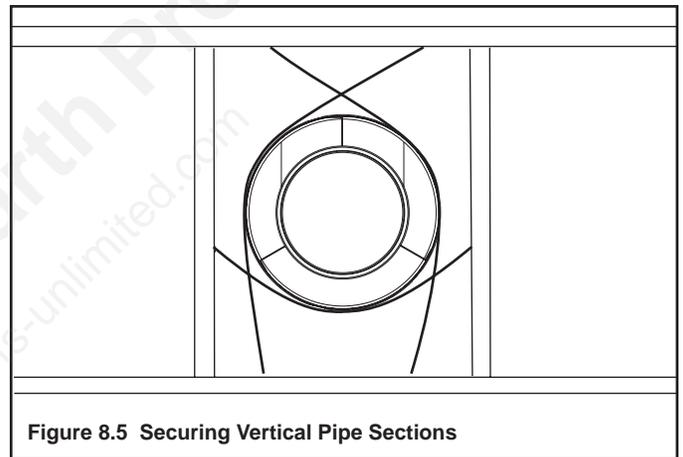

Figure 8.5 Securing Vertical Pipe Sections
- Vent supports or plumbers strap (spaced 120° apart) may be used to support. See Figures 8.5 and 8.6.